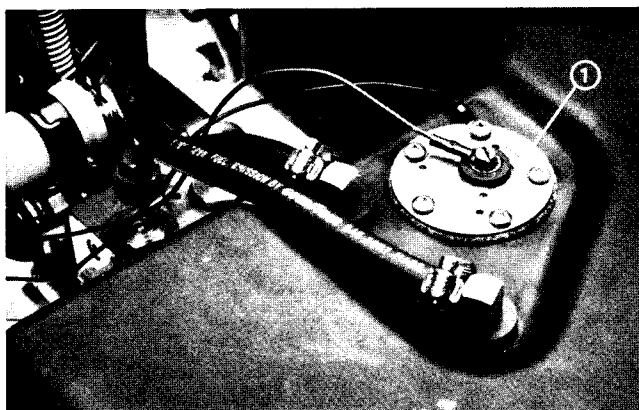

Figure 17
1. Remove the fuel gauge sender from the fuel tank (Fig. 17).